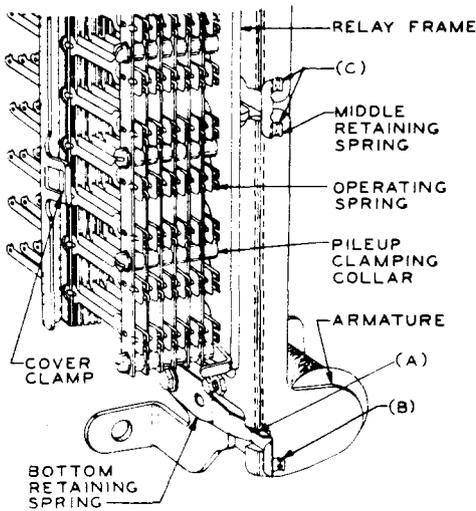
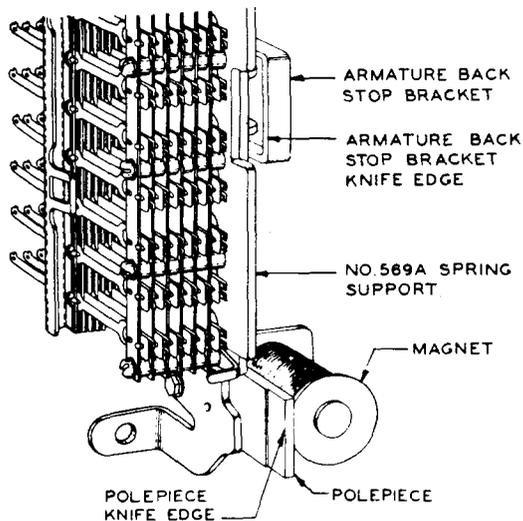

FIG. 7 - LUBRICATION POINTS BETWEEN ARMATURE AND RETAINING SPRINGS
FIG 9 - LUBRICATION OF KNIFE EDGES
3.05 Relay Cover Tightness: When the cover of a 245 or 254 type relay equipped with a cover clamp of the type illustrated in Fig. 7 is removed, exercise
Tighten the mounting screw securely. Apply a thin coat of KS-8496 No. 3 lubricating compound with the KS-14164 brush to the points of contact between the retaining spring and the armature, designated A and B, shown on Fig. 7. To insure a thin coat of the lubricant, remove the excess lubricant from the brush by scraping it on the edge of the container. After applying the lubricant, allow the parts lubricated to remain idle for approximately 15 minutes to permit the solvent in the lubricant to evaporate.
3.08 Where an armature is replaced, the pole piece knife edges and the armature backstop bracket knife edge should be lubricated. First remove the top and bottom retaining spring as covered in 3.06. Then apply a thin coat of KS-8496 No. 3 lubricating compound with the KS-14164 brush to the pole piece knife edges and the armature backstop bracket knife edges shown in Fig. 9. Take care that the lubricant does not extend for more than approximately 3/32" on either side of the knife edges. The pole piece is 5/32" thick. To insure a thin coat of the lubricant, remove the excess lubricant from the brush by scraping it on the edge of the container. Also lubricate the points of contact between the armature and the top and bottom retaining springs as covered in 3.06. A thin coat of KS-8496 lubricating compound should also be applied at the points of contact between the middle retaining spring and the armature, designated C in Fig. 7. After applying the lubricant, allow the parts lubricated to remain idle for approximately 15 minutes to permit the solvent in the lubricant to evaporate. Where only an upper or lower armature is replaced, only the knife edges associated with the replaced part and contact points with retaining springs need be lubricated. Where the middle retaining spring only is replaced, the knife edges need not be lubricated, but the points of contact between the retaining spring and the armature should be lubricated.